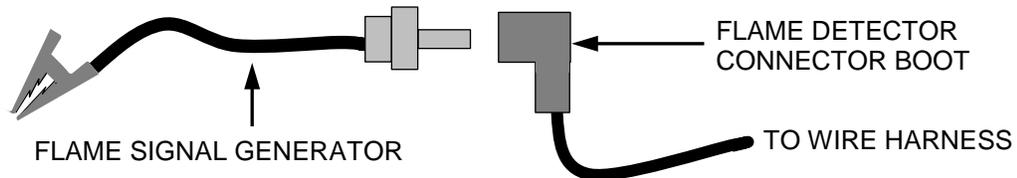

Figure 6.6: Connecting the Flame Signal Generator
- b) Push the **BACK** button three (3) times to return to the upper level menu.
- c) When the Controller gets into the ignition phase, the Control Panel will show **IGNITION TRIAL**. At that point attach the alligator clip (see Figure 6.6) to any bare metal surface or ground. The C-More display should now show **FLAME PROVEN** and begin to ramp up to 100% fire rate. Note that no gas or flame is present in the boiler at this time.